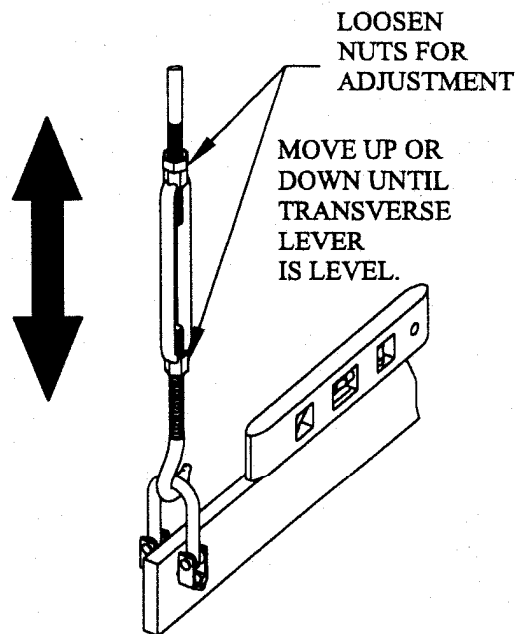

FIG. 4
- ☐ 4) Make sure that the transverse lever is level and the arrows on the decal are pointing up. **This is very important.** See Fig. 4.